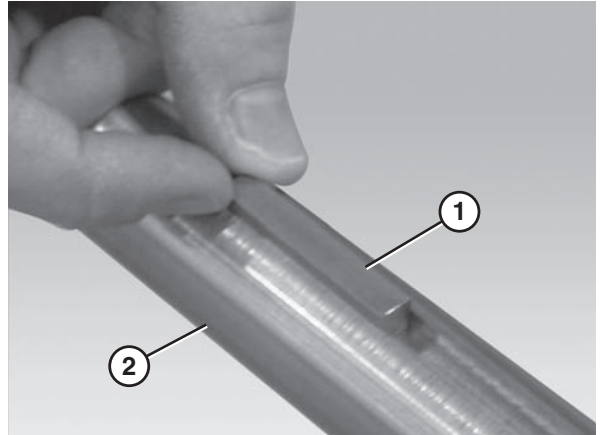

Figure 34
7. Insert the motor output shaft key (Figure 34, item 1) into the motor output shaft keyway (Figure 34, item 2).